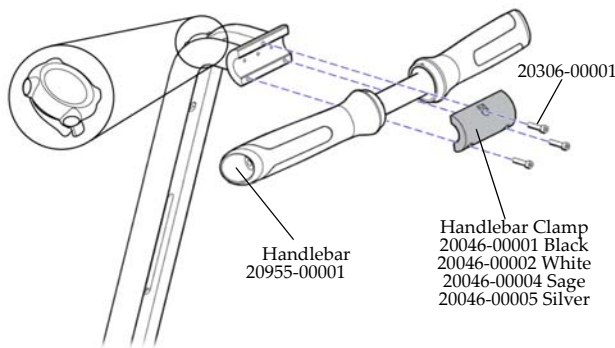

Figure 1-2: Installing and Removing Handlebar
2. Use 3mm hex wrench to remove (3) fasteners. See Figure 1-2.
2. Place handlebar against LeanSteer frame with the bevel facing backward and Segway logo facing up. See Figure 1-2.
4. Insert (3) fasteners (20306-00001) through handlebar clamp into LeanSteer frame and tighten by hand.